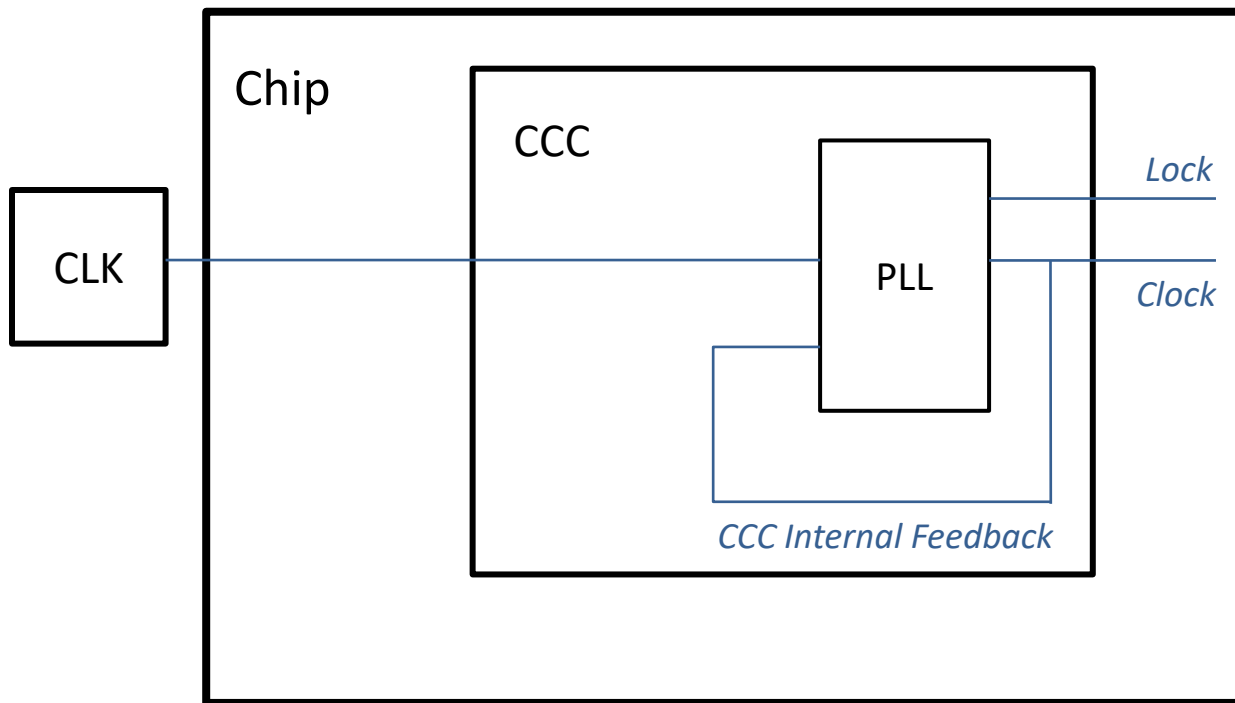
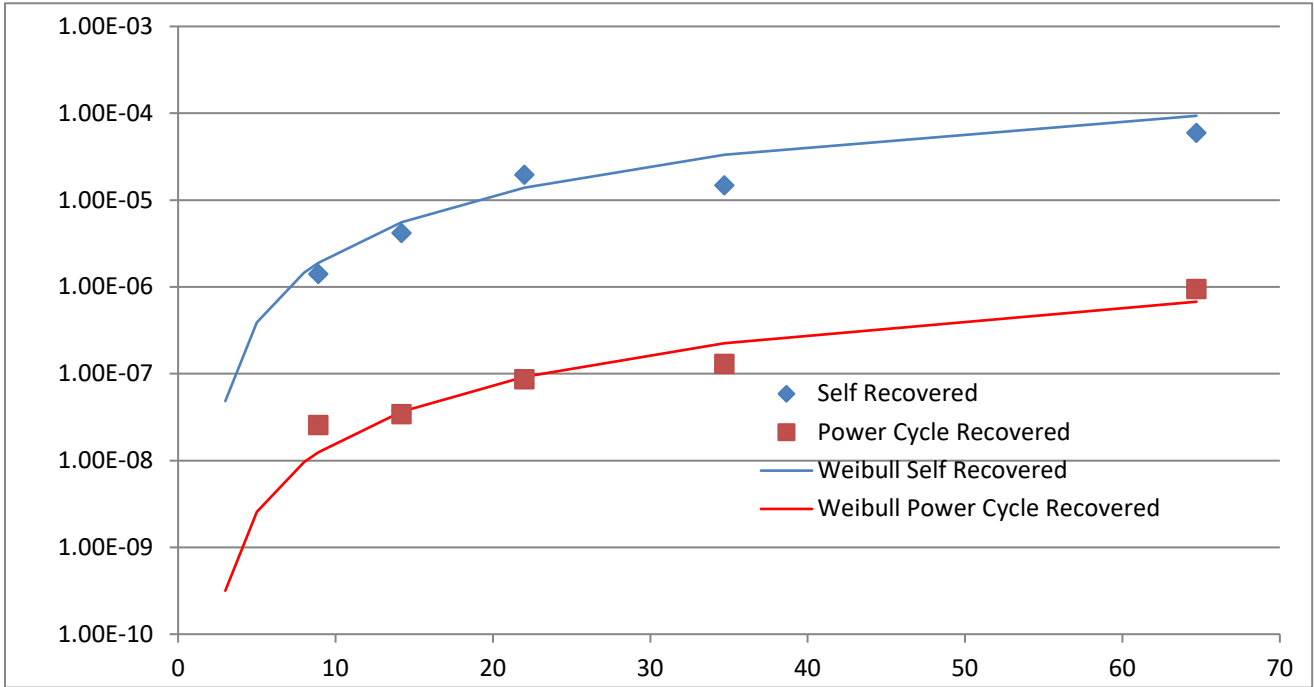
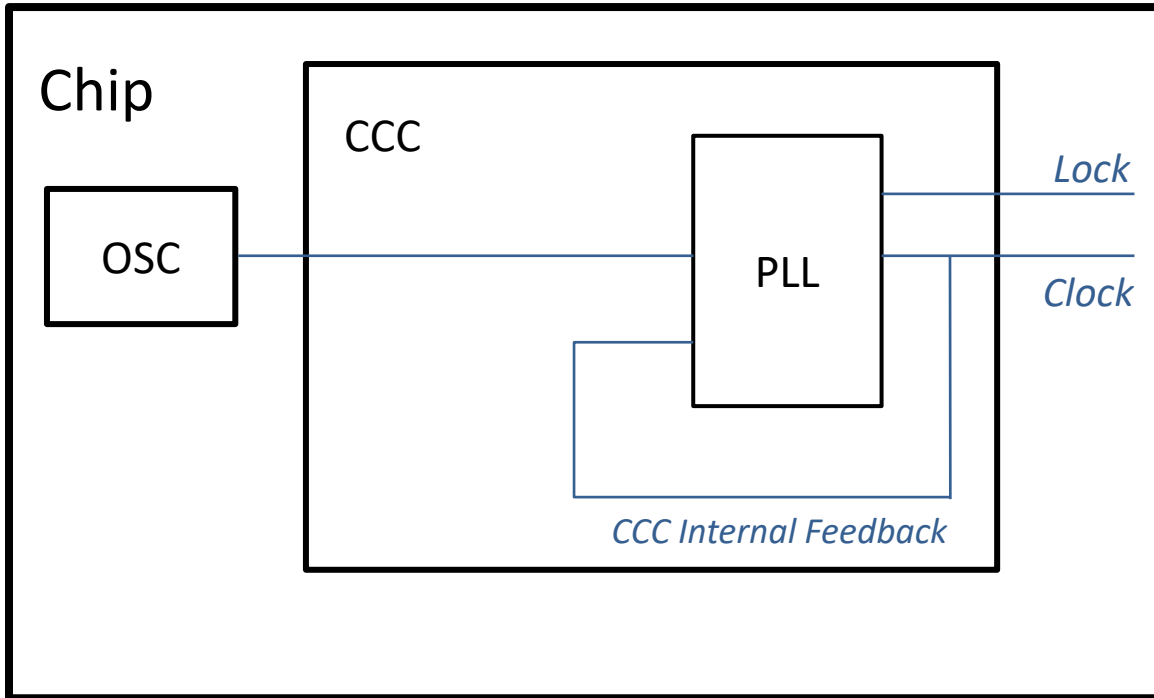
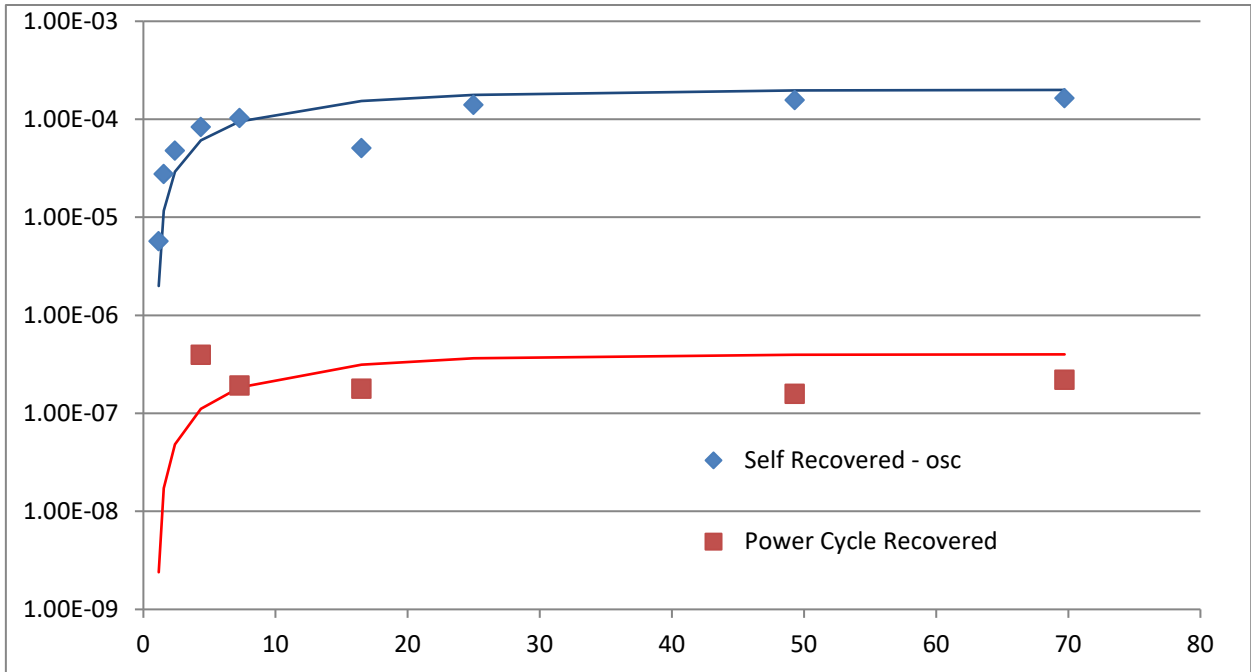

Fig. 1 Block diagram illustrates an external clock feeding into single PLL with CCC-internal feedback.
Fig. 2 Cross-section versus LET of Single Instance PLL-upset modes
Fig. 5 Block diagram illustrates an internal oscillator feeding into single PLL with CCC-internal feedback.
Fig. 6 Cross-section versus LET of OSC-PLL upset modes: Self-Recoverable and Power-Cycle Recoverable.
Fig. 1 shows an external clock of 20MHz feeding the unhardened PLL and generating four (4) clocks with frequency of 1MHz, 50MHz, 100MHz, and 200MHz. Each generated clock controls a chain of 200 flip-flops (FF). A checkerboard data pattern is the input to these chains, and outputs are monitored to identify single event upsets (SEU). Heavy ions used for irradiation have LET of 8.9, 14.2, 22, 34.7, and 64.7MeV·cm2/mg. Results in below show two (2) modes of non-destructive functional interruption, Fig. 2 plots their cross-sections versus LET, and Table 1 displays the extracted Weibull parameters.
Fig. 5 shows an on-chip RC-oscillator feeding the PLL to perform the same testing as before. Fig. 6 plots the testing results and Table 3 displays the extracted Weibull parameters. Note that the cross-sections in Fig. 6 is due to the combined SEU of OSC and PLL, therefore they are larger than those in Fig. 2 which only shows the PLL SEU only.